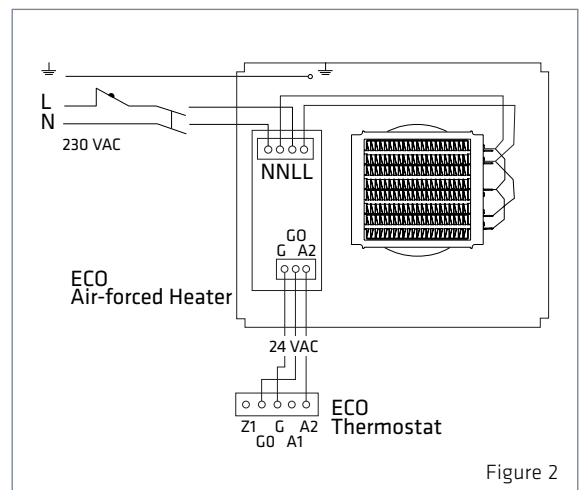

Figure 2
3. Remove the two fixing screws (3) of the perforated cover (2) and pull the cover away from the rear part (1).
4. Push the collar of the rear part inside the supply air duct and fix the rear part to the wall, using four screws (4), Ø max 5 mm.
5. Connect the supply cable of the supply air unit (MMJ) and the control cable of the thermostat (KLMA) to the terminals of the electronic part of the supply air unit as shown on Figure 2.
1. Connect supply voltage (230V) to terminals N and L of the electronic part of the supply air unit as shown on Figure 2.
2. Connect the grounding to the separate ground terminal in the supply air unit as shown on Figure 2.
3. Connect the supply air unit of the ECO series to the thermostat by means of the KLMA cable as shown on Figure 2.
2. Remove the cover (2) of the thermostat from the rear part (1), using e.g. a small screwdriver (clips at the upper and lower edge of the thermostat).
3. Fix the rear part of the thermostat either to the instrument box or directly on the wall, using screws (3).
4. Connect the cables to the terminal block (5) as shown on Figure 2.